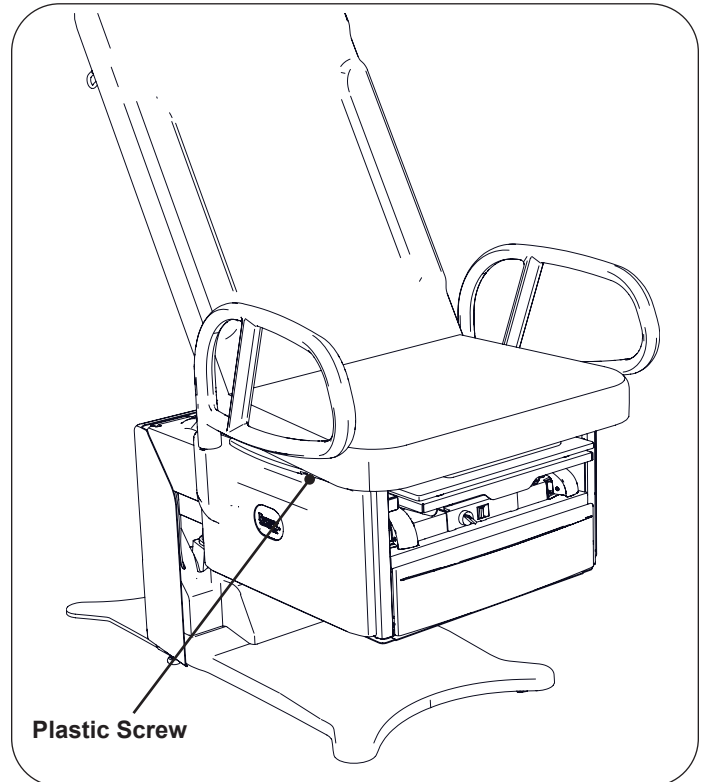

Figure 31. Location of White Plastic Stop Screw
2. Remove the white plastic screw (Figure 31).